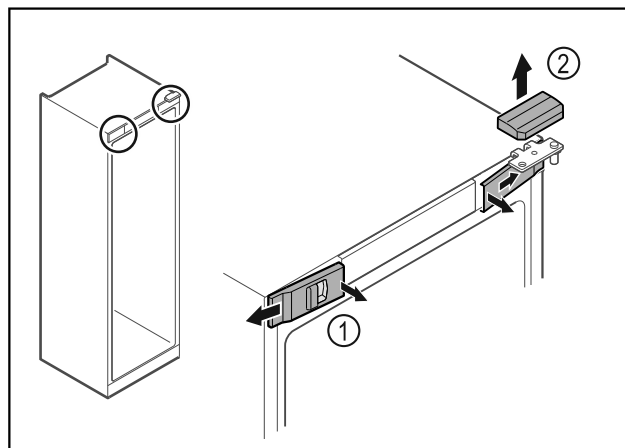

Fig. 15
- Unlatch the front covers Fig. 15 (1) on the inside and remove them sideways.
- Lift off the upper cover Fig. 15 (2).